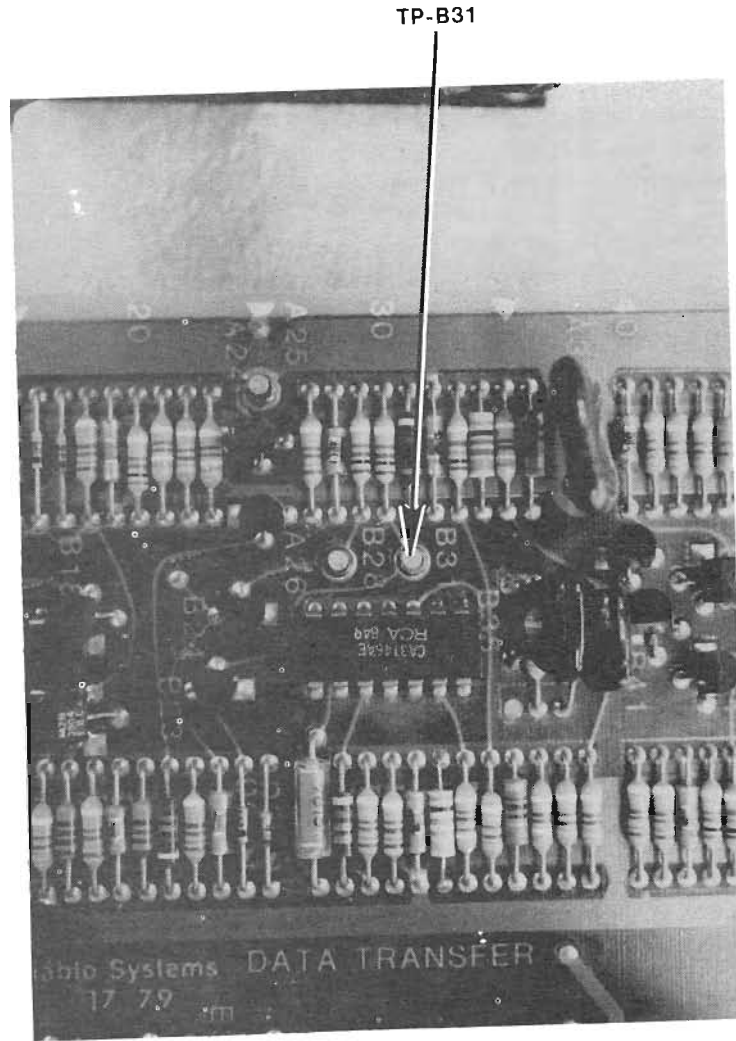

FIGURE 5 DATA TRANSFER PCB NO. 12143-TEST POINT LOCATION
- e. Connect oscilloscope CH 2 probe to the DIFFERENTIATED DATA signal on the Data Transfer PCB test point TP-A33 on 12046, test point TP-B32 on 12121 or test point TP-B31 on 12143 (see figure 5).